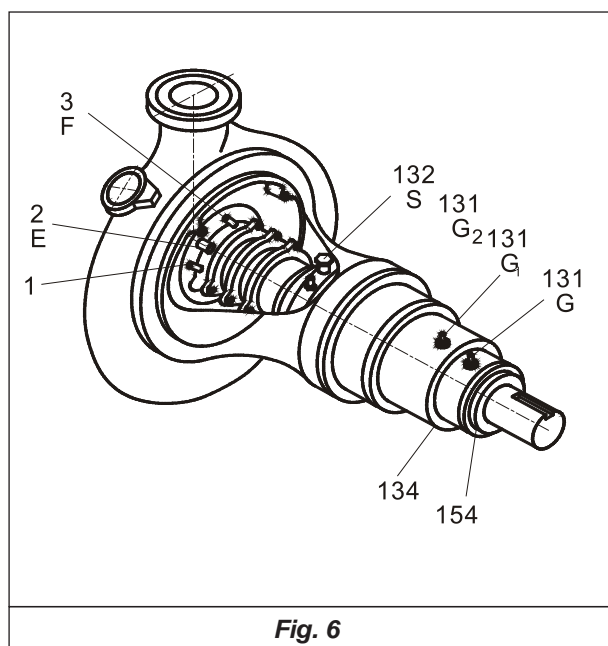

Fig. 6
1.2.8 Sealing System (Fig. 6)
The pumps sealed with stuffing box have a labyrinth seal in order to avoid water inlet to the bearings. This seal must be lubricated by a grease cup (132), using the same bearing grease according to the stuffing box conditions. The grease cup must be adjusted until the grease appears through the labyrinth seal. (Fig. 6).